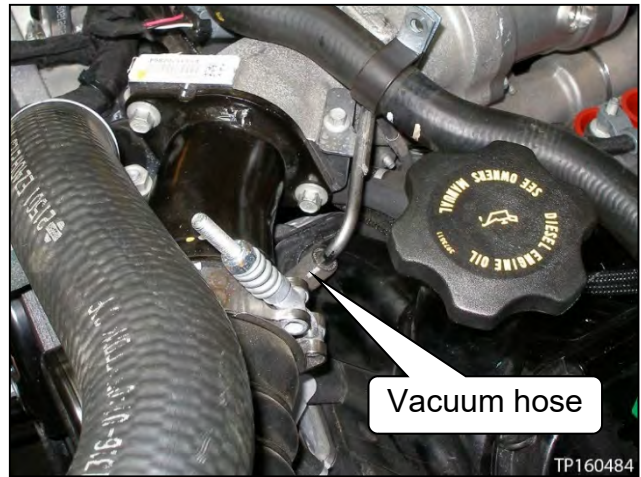

Figure 75
16. Connect the vacuum hose (see Figure 75).